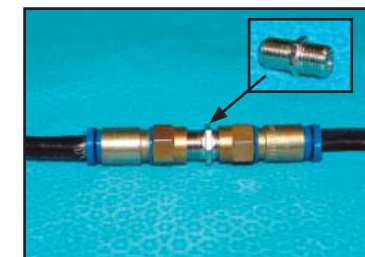

Figure 5
26. Fasten the new cable splice onto the original cable by threading one end of a barrel connector into the "F" connector on the original cable, and the other end into the "F" connector on the new section of cable. Repeat for the opposite end to complete the connection. See Figure 5.